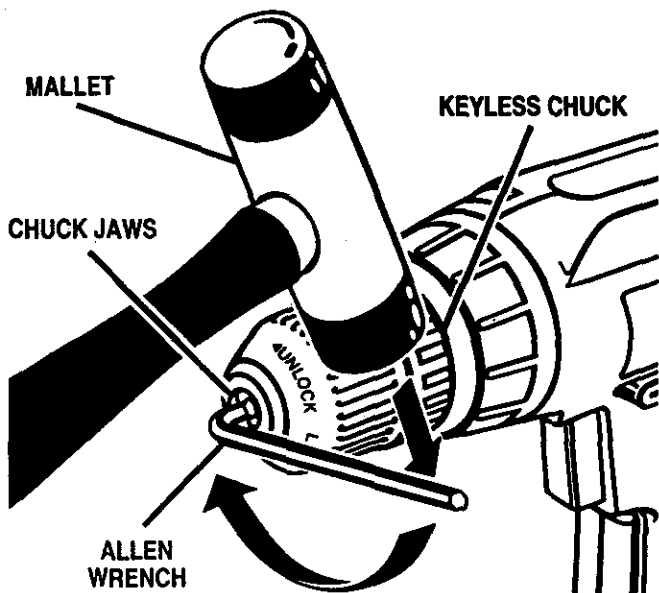

Fig. 10
See Figures 10, 11, and 12.
- Tap the allen wrench sharply with a mallet in a clockwise direction. See Figure 10. This will loosen the screw in the chuck for easy removal.